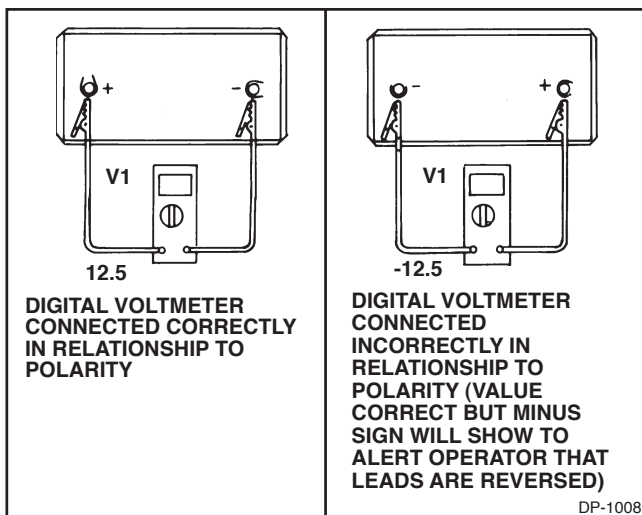

Figure 1-8. Correct and Incorrect Polarity Readings
3. Figure 1-8 illustrates the digital voltmeter reading in a DC system with both correct and incorrect polarity. Whenever the minus sign is read, reverse the meter leads to obtain the correct polarity.